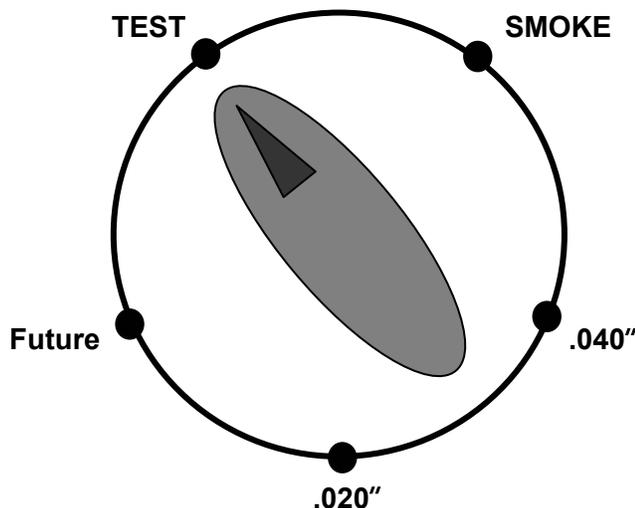

Figure 6
8. Set tester's selector switch to TEST. (Figure 6)